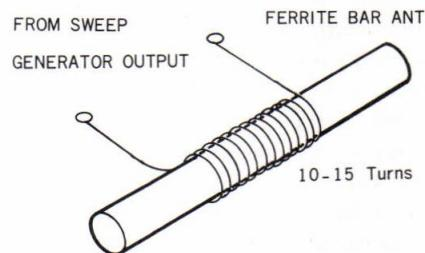

Fig. 3-9 455 kHz radiating antenna
2. Radiating antenna. See Fig. 3-9.